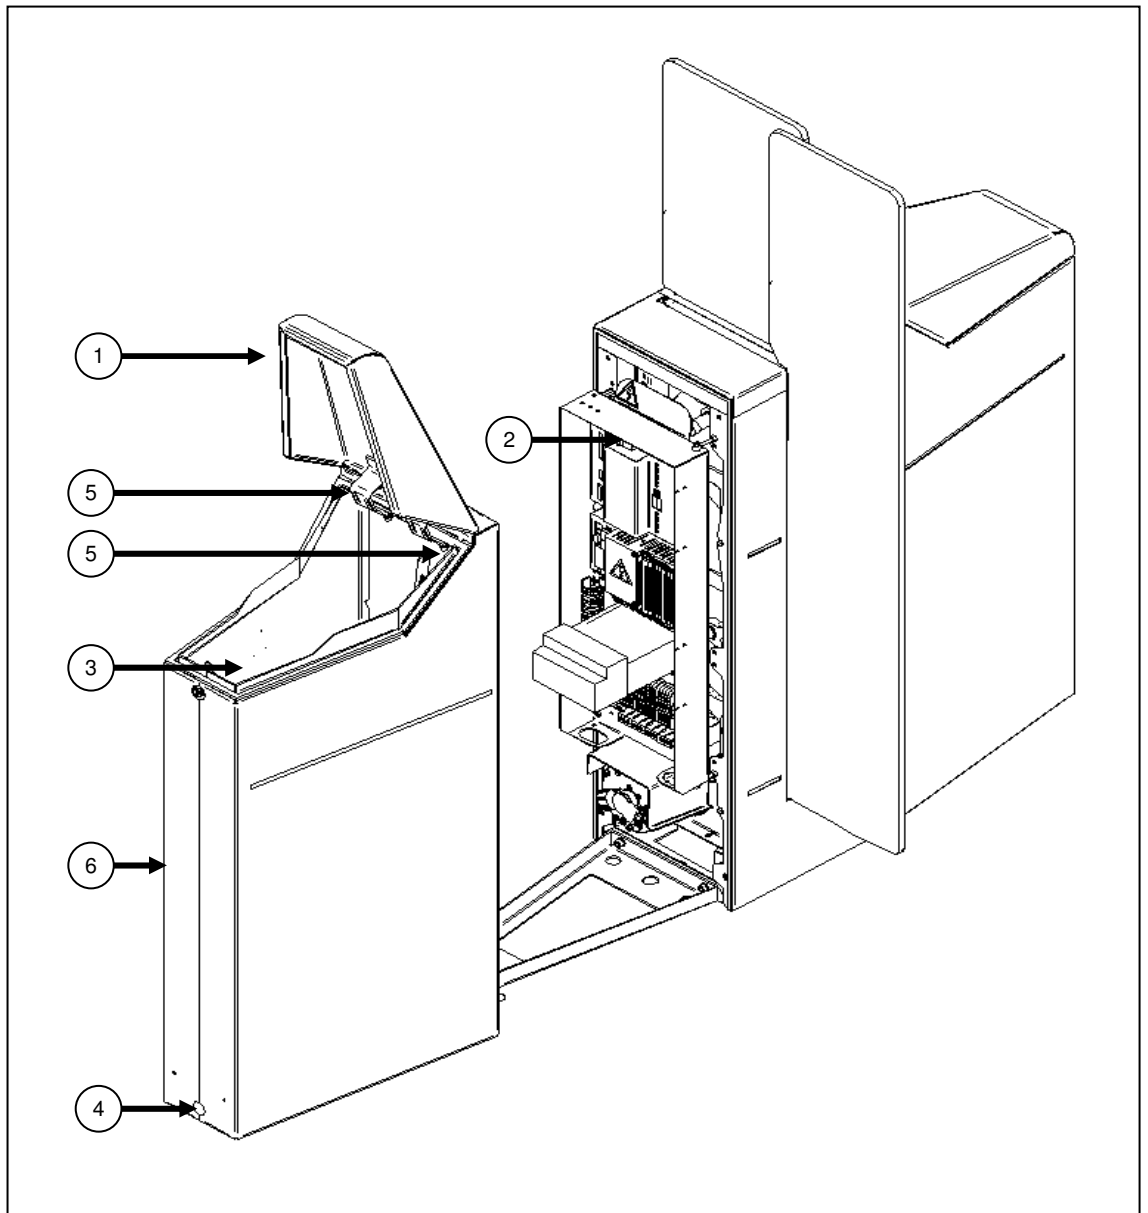

Fig. 4-5 Access to motor, drive, and control unit
Proceed as indicated in Fig. 4-5.
Now the end housing (6) can be removed as shown in Fig. 4-5.